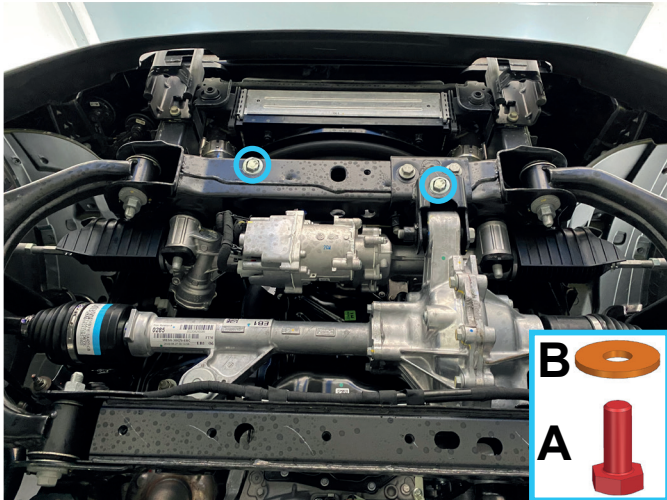

Fig. 1
1. Loosely install M10x30 bolts (item A) with M10 washers (item B) into crossmember as shown in fig.1. At this point only thread the bolt in 2-3 turns to allow the skid plate to slide under in the next step.